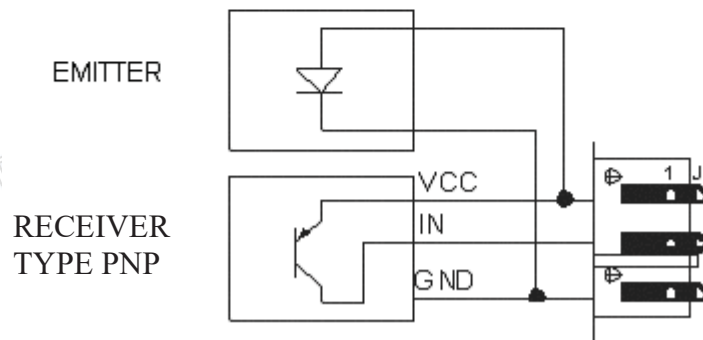

figure 4.3
4.1.2 Connection of the photocell to the inverter (figure 4.3):